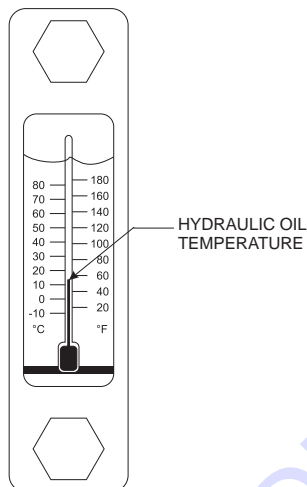

Figure 30. Hydraulic Oil Temperature Gauge
- Let the pump cycle until the hydraulic oil temperature (Figure 30) is approximately 50° to 60°F.